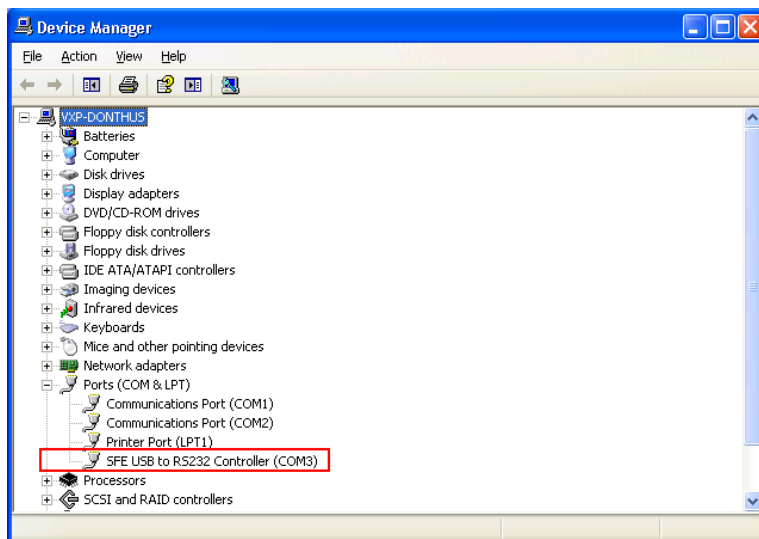

Figure 43 - Device Manager Listing SFE USB to RS232 Controller Drivers
2. If the SFE USB to RS232 Controller drivers are automatically detected (this can be verified in Device Manager), as shown in Figure 43, proceed to next step; otherwise follow the Step 8 - Installing Drivers for the USB to RS232 Bridge.